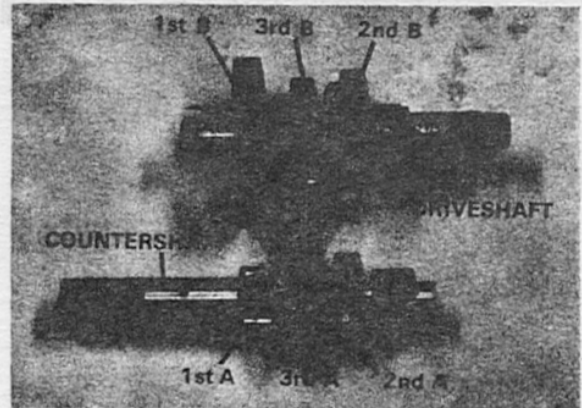

Fig. 12
46. Inspect the two transmission shafts and gears to be certain that they are all in good condition. Further disassembly of the transmission is not necessary unless one or more of the gears must be replaced. If this is necessary, carefully note the position of the gears on the shaft before removing them for replacement. (figure 12)